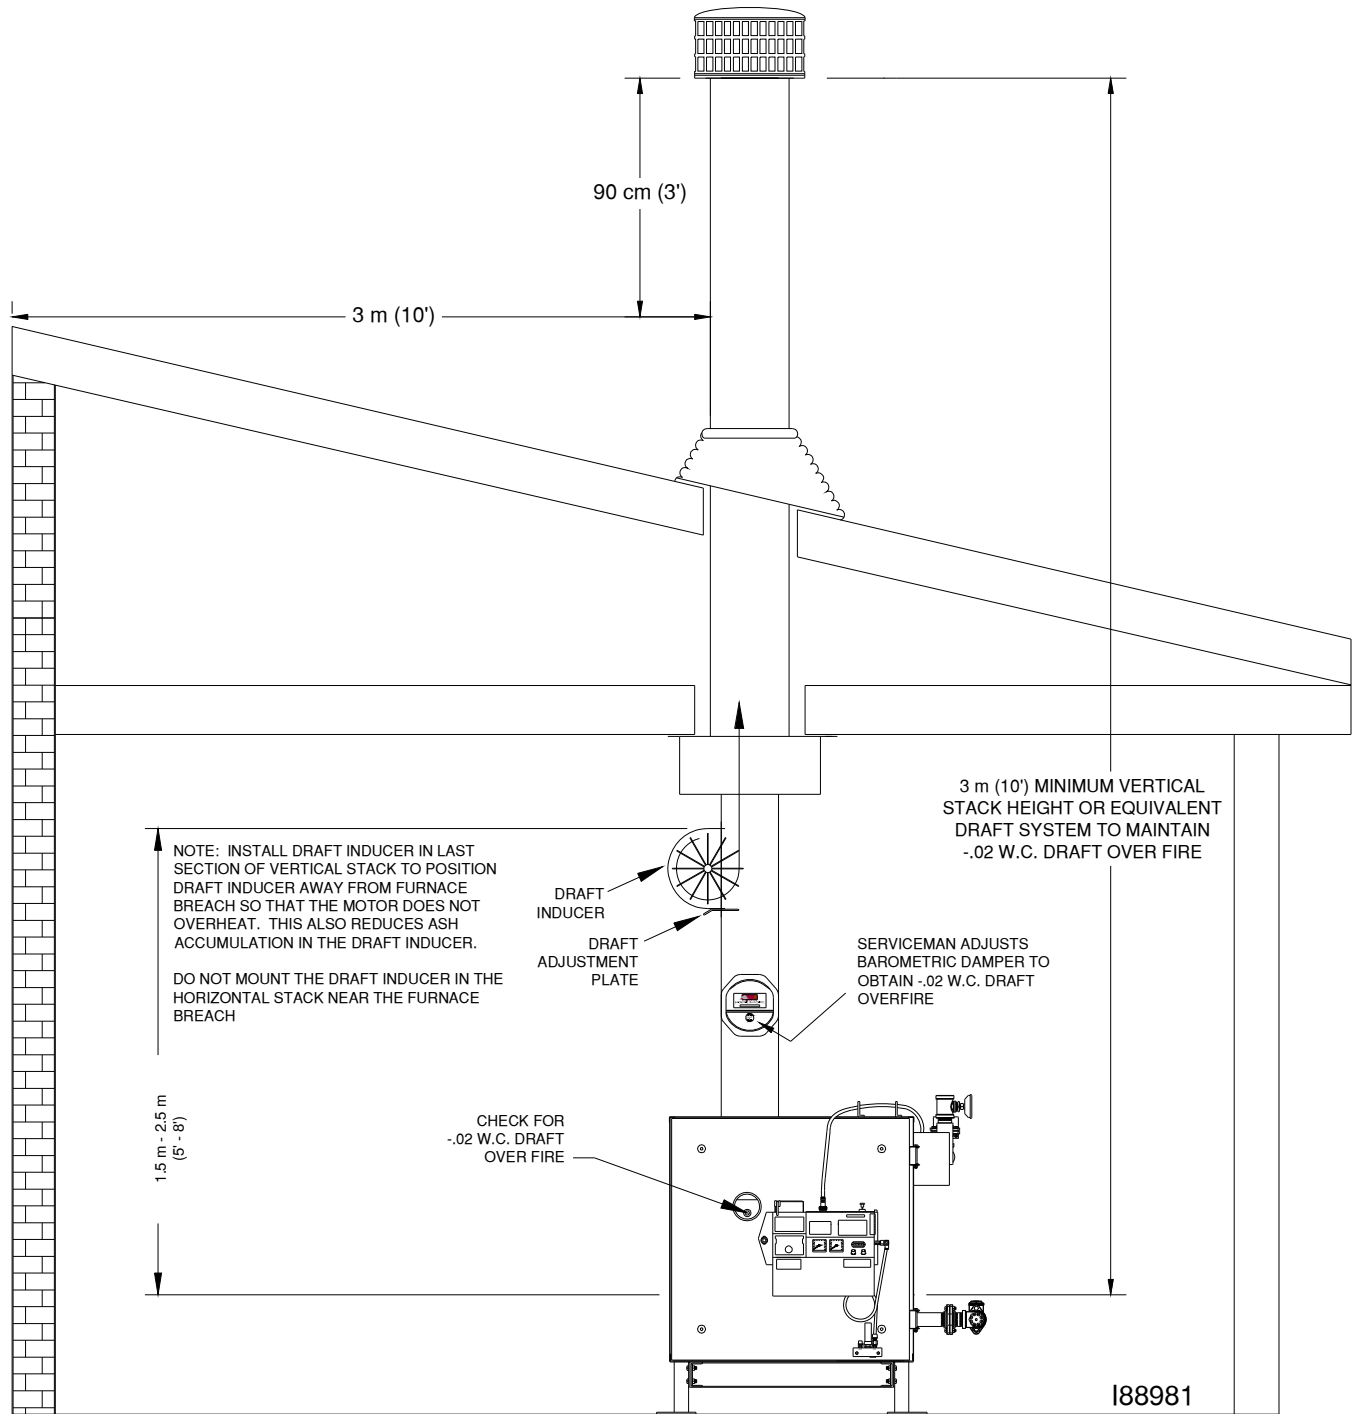

Figure 4M - Installation of the Draft Inducer
The draft inducer is designed to aid in the removal of the natural draft created by the appliance to vent the combustion gases to the outside of the building. As the paddle wheel turns, a negative pressure is maintained within the stack so that the combustion gases can leave the boiler and travel out of the stack. (See Figure 4M.) *Proper sizing, installation, and adjustment of the draft inducer are critical for optimal draft inducer operation.*
1. Refer to Figure 4M. Follow the instructions included with the draft inducer to mount the draft inducer on the section of single-wall vertical stack.